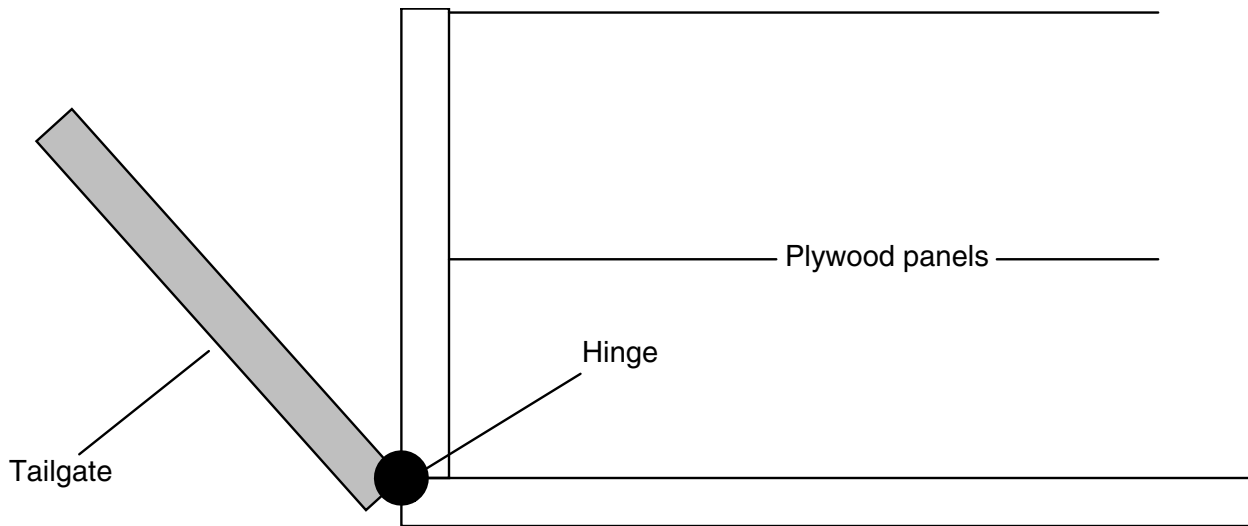

Fig. 7
- (i) Add sketches and notes to Fig.7 to show how a cam could be used to lock the tailgate into different positions.